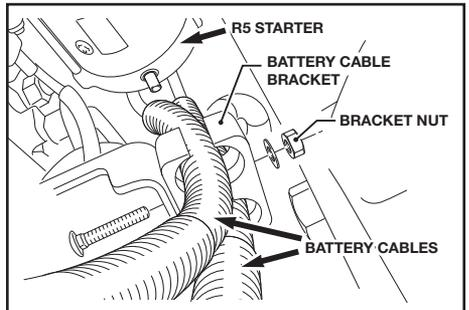

Fig. 11
4. Locate the battery cable bracket attached to the engine block (See Fig. 11).
7. Secure the cables to the B+(30) terminal and ground stud of the starter.
8. For all installations, torque the B+(30) terminal and ground nuts to specifications located on page 3.